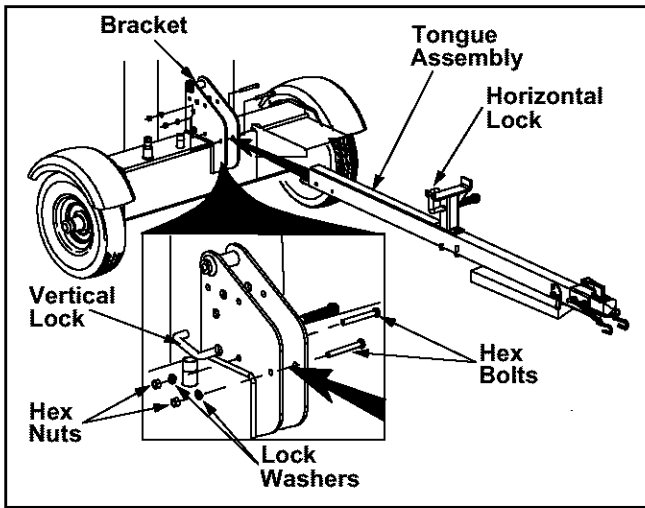

Figure 1
- Unlock the two beam locks by pulling out on the beam locks and pivoting them down. Remove the tongue assembly. See Figure 1.